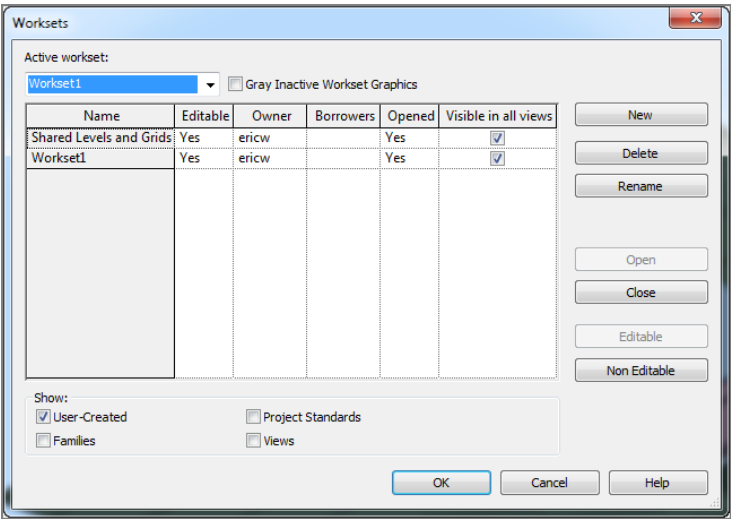

FIGURE 22.4: The Worksets dialog box
4. The next dialog box is named Worksets, as shown in Figure 22.4. Your two worksets are presented in a spreadsheet format that says they're both editable and you own them. Congratulations. There is plenty to explain here:
- ▶ The Show area at the bottom of the Worksets dialog box lets you add specific families, project standards, and views to the workset list (see Figure 22.4).